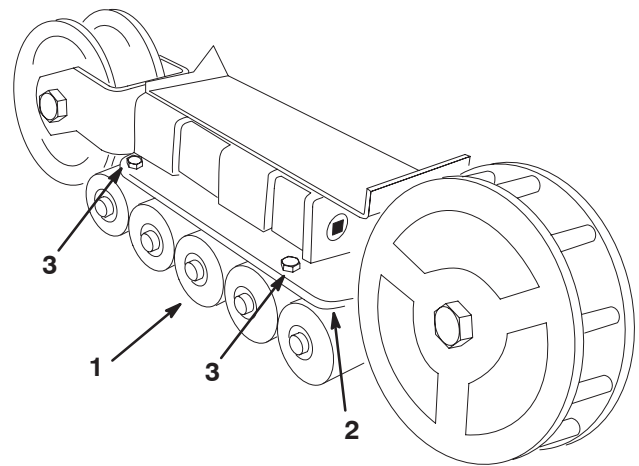

Figure 40
2. Remove the 4 bolts securing each lower track guide which contains the road wheels, and remove them (Fig. 40).